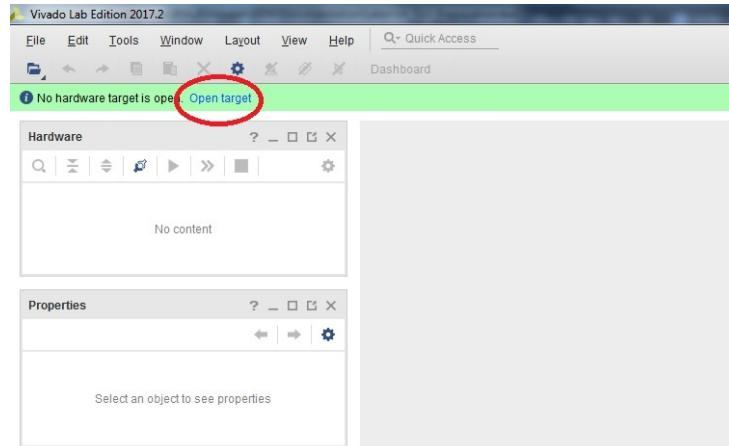

Figure 1.3: Vivado interface.
Updating the firmware on the TLU requires writing a bit stream file to its FPGA. This operation is performed using the left USB port located on the back panel, labelled FPGA PROGRAMMING in figure 1.3.
1. Open the Vivado tools and select "Hardware manager", figure 1.3